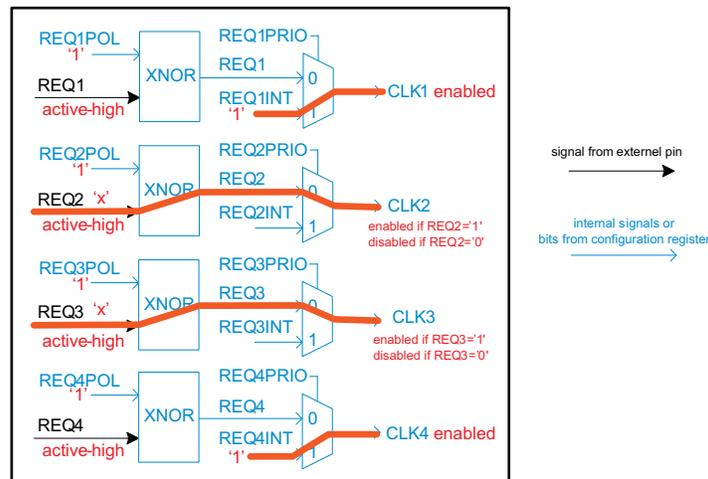

Figure 26. Clock Output Enable Signal (Shaded Line Marks Power-Up/Default Setting)
(1) All data is transferred with the MSB first.
(2) A device reset to default condition is initiated by a V_{DD_DIG} power-up sequence.
(4) Inactive as long as the REQxPRIO bit is low, external REQx pins are valid (see Figure 26)
(5) Writing data beyond 03h may affect device function.